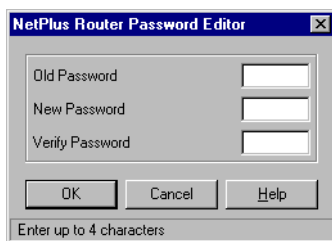

Figure 3-21. NetPlus Router Password Editor
2. Click the **Password** button to display the Password editor, shown in Figure 3-21.